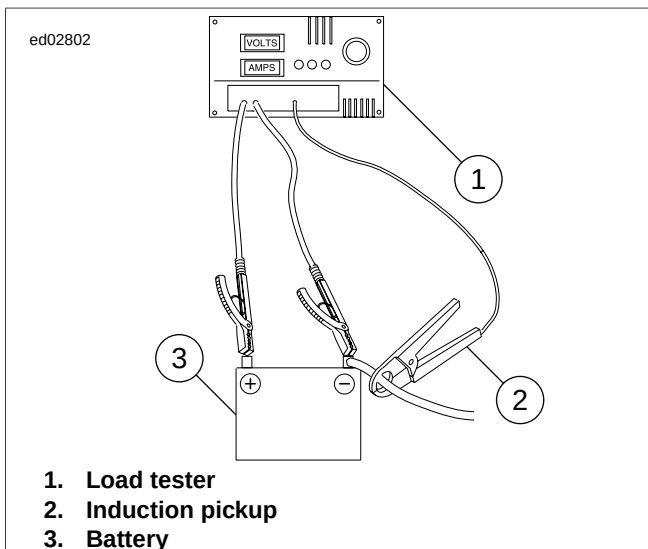

Figure 1-22. Check Current Draw (Ignition Switch On)
- See Figure 1-22. To check for this condition, place load tester induction pickup or current probe pickup over battery negative cable.